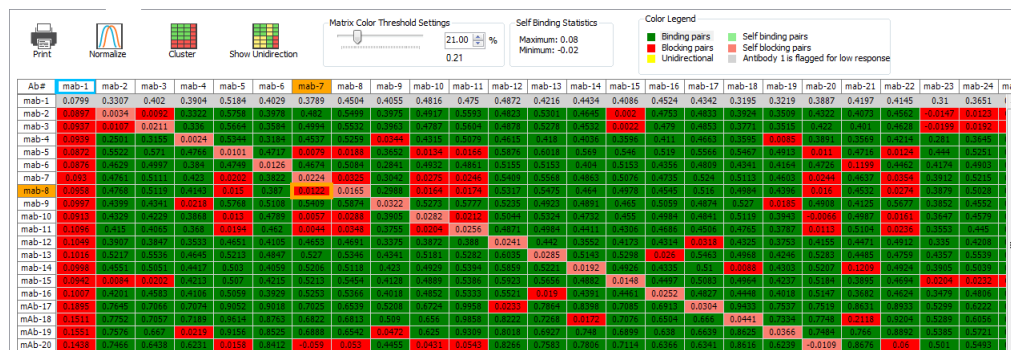

Figure 7-30: Low Responses Flagged for Antibody 1 in Matrix Tab
- Click the **Matrix** tab. Low responders display in gray in the matrix (Figure 7-30).